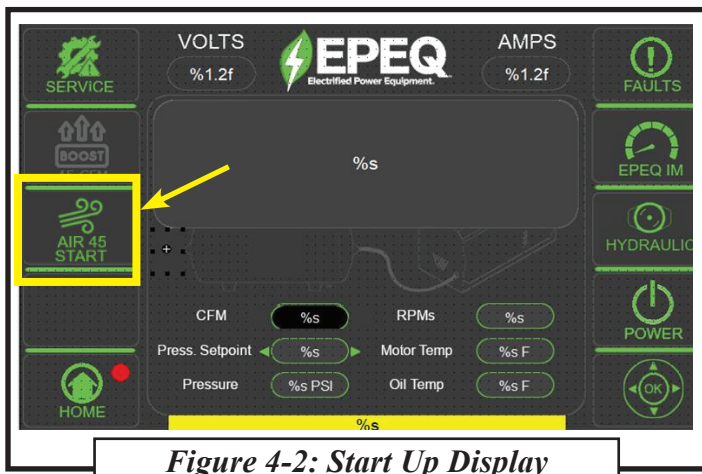

Figure 4-2: Start Up Display
6. The EPEQ® AIR45 Compressor receives power from two (2) ELiMENT® Batteries. However, power to the motor is controlled using the EPEQ® 7" Smart Display. (See **Figure 4-2**).
- Once the display has gone through the start up sequence, an icon for the AIR45 will appear on the display when properly connected. (See “**Figure 4-2: Start Up Display**”.)
- Step 3:** Find and press the “AIR45 START” button on the left side of the Display. (See **Figure 4-2.**) Using the directional pad located on the bottom right corner of the display, you can request pressure changes or capacity on the display. Here, you may also select the pressure set point, RPMs are dependent on the CFM request.